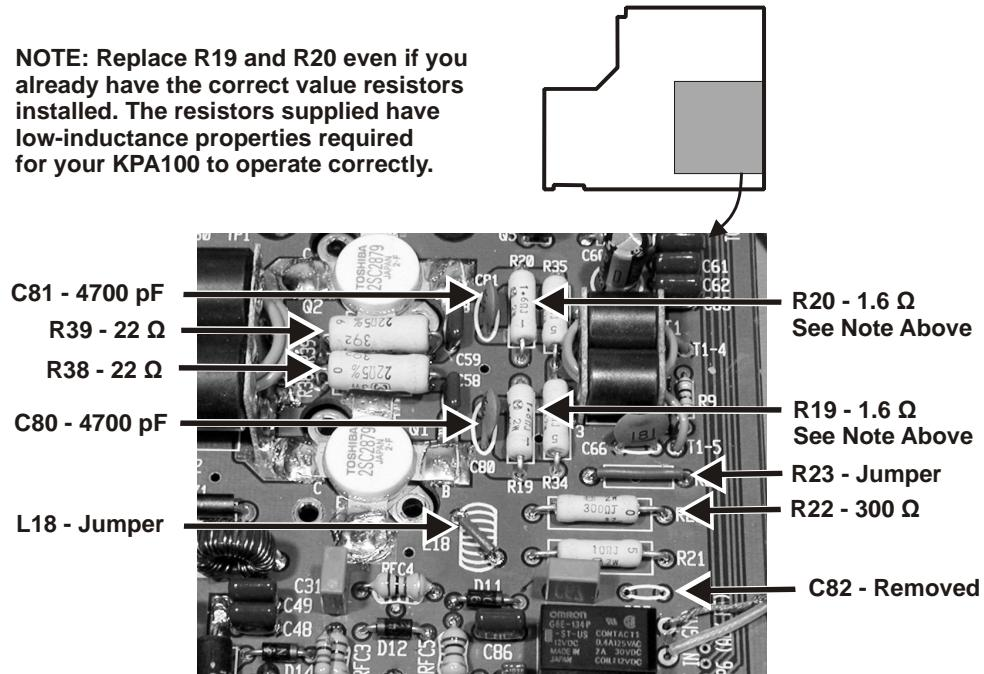

Figure 2. Input and Feedback Circuit Component Changes.
5. **Page 4, Figure 2:** Cut out the new figure 2 below and paste it over figure 2 in the manual.